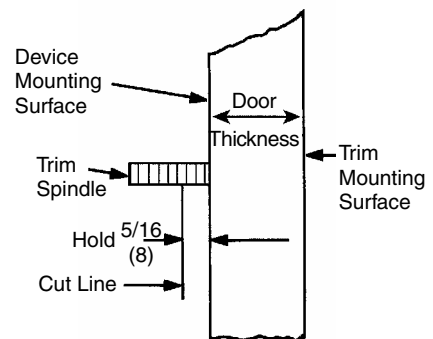

Figure 5
7. Cut trim spindle as shown. (Figure 5)